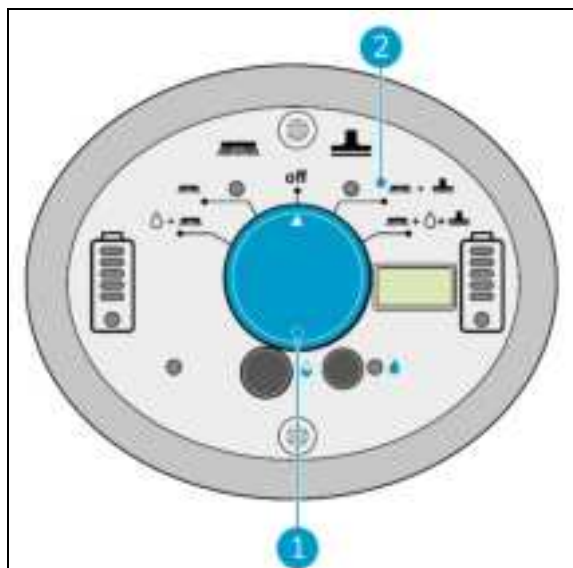

Figure 24
1. Use the i-mop XL plus main switch (Figure 24, pos 1) and choose MODE 3 Brush + Dry vacuum (Figure 24, pos 2).